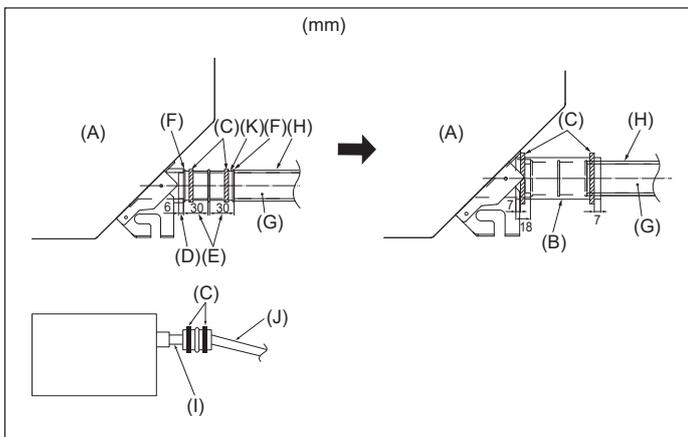

Fig. 4-5
1. Connect the drain socket (supplied with the unit) to the drain port. (Fig. 4-5) (Fix the tube using PVC adhesive then secure it with a band.)
- (A) Main unit